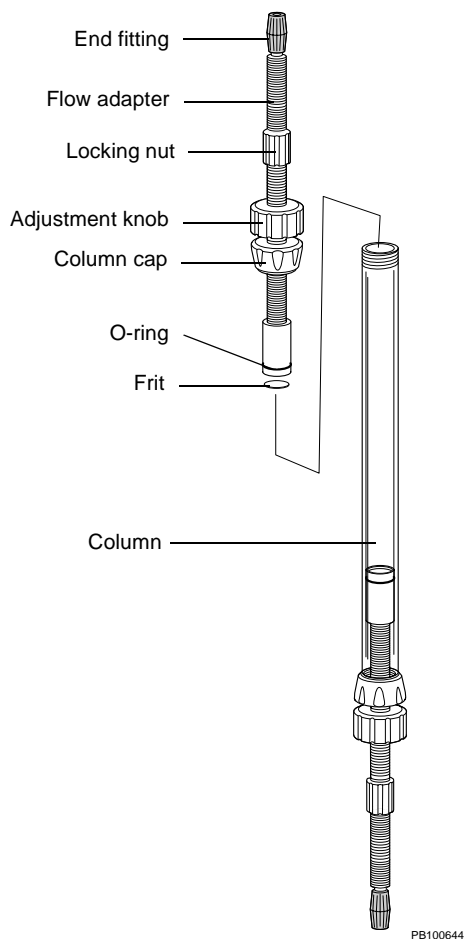

Figure 1 Column Parts
Before packing, read this section to understand how to position the flow adapters in the column (Figure 1).
4. Screw an end plug (not shown in Figure 1) into the bottom end fitting to cap the column outlet.